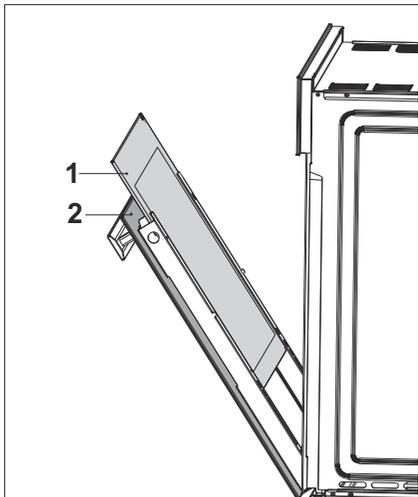

Fig. 32
- Remove the internal glass of the appliance to clean it (Fig. 32).